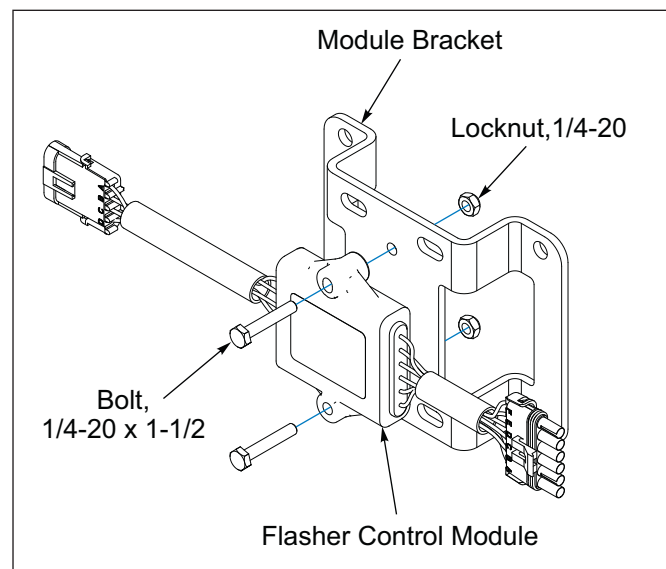

Figure 2-55: Light Module and Bracket
5. Attach the Light Module to the Module Bracket with 1/4-20 x 1-1/2 Bolts and Locknuts. **See Figure 2-55.**